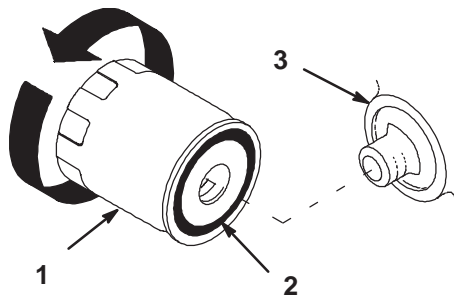

Figure 40
2. Remove the old filter and wipe the filter adapter gasket surface (Fig. 40).
4. Apply a thin coat of new oil to the rubber gasket on the replacement filter (Fig. 40).
5. Install the replacement oil filter to the filter adapter. Turn the oil filter clockwise until the rubber gasket contacts the filter adapter, then tighten the filter an additional 1/2 turn (Fig. 40).